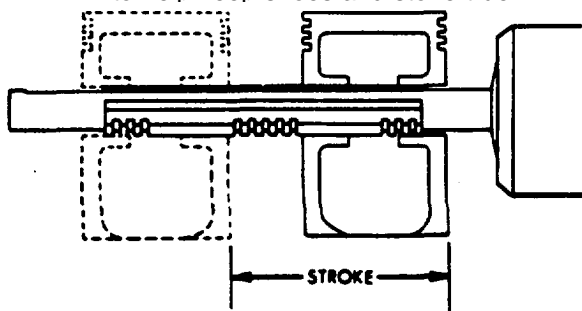

FIGURE 35
- (1) Place the piston, rod, or other part on rear of honing unit as shown (Figure 35). Depressing Pedal slowly, stroke the part forward and back on honing unit, at a rate of about one complete stroke each second. Release Pedal before removing part.